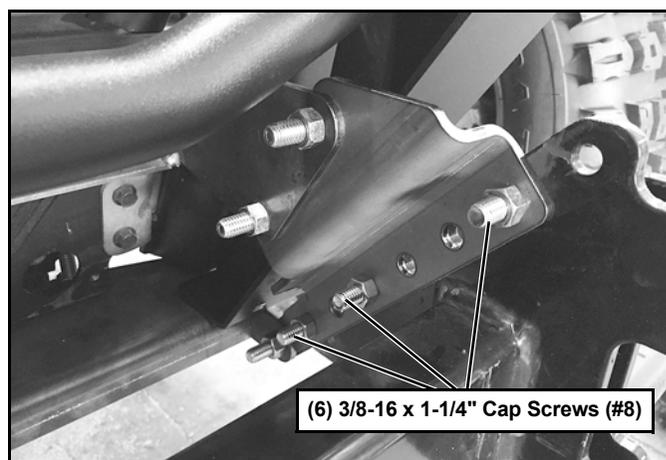

Figure 10
16. Secure UTV Mount (#1) with (6) 3/8"-16 X 1 1/4" Cap Screws (#8) and (6) 3/8"-16 Lock Nuts (#9). (See Figure 10.)